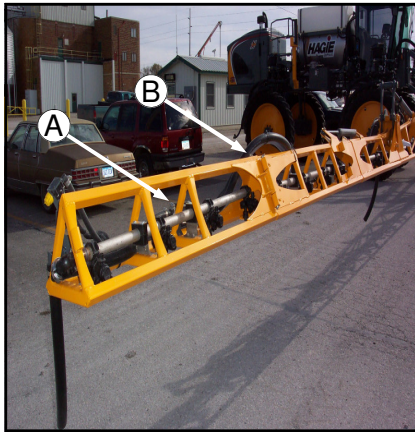

FIG. 45-2
**MANUAL 90' TO 80' FOLD** - To convert a 90 foot boom to an 80 foot boom, manually close the solution supply valve on the outer section (fig. 45-2, item A). Remove the pin on the back side of the boom (fig. 45-2, item B) so it will hinge forward (fig. 45-3) and secure it with the rear pin (fig. 45-4). Repeat these steps on the other side and recalibrate the console accordingly (see the Raven manufacturer's guide) before spraying resumes. See page 55 regarding foam marker adjustment.